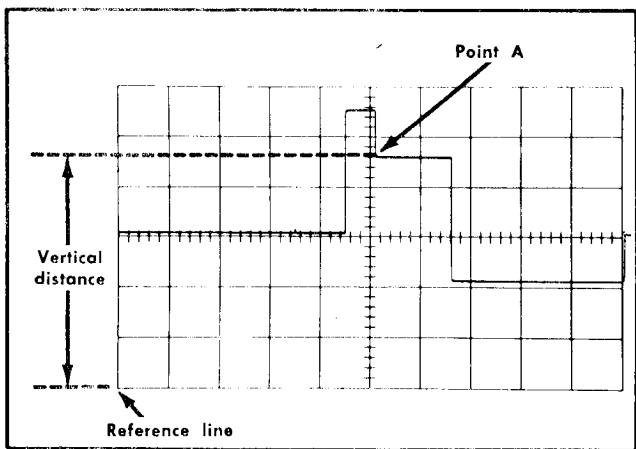

Fig. 2-16. Measuring instantaneous DC voltage with respect to a reference.
9. Measure the distance in divisions between the reference line and the point on the waveform at which the DC level is to be measured. For example, in Fig. 2-16 the measurement is made between the reference line and point A.
Example. Assume that the vertical distance measured is 4.6 divisions (see Fig. 2-16), the waveform is above the reference line, using a 10X attenuator probe and a VOLTS/DIV setting of 2.